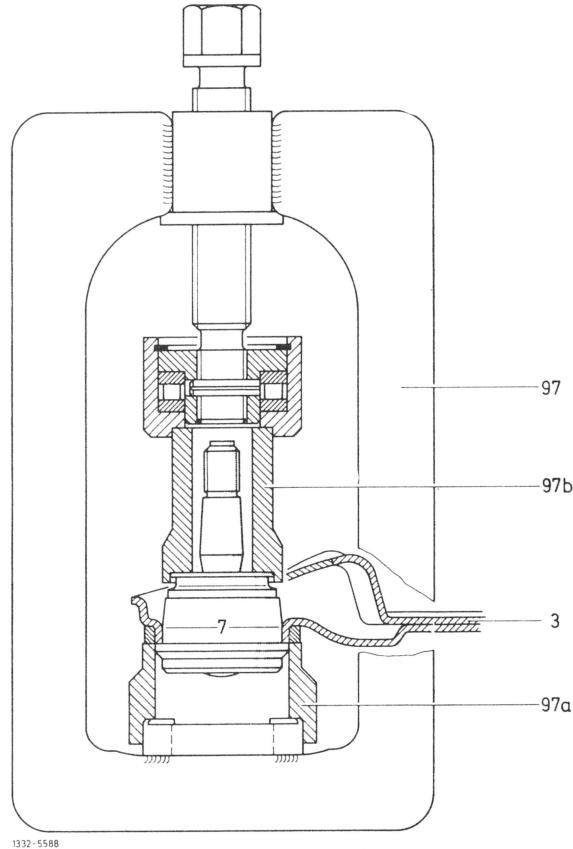

Fig. 1
- 3 Press supporting joint out of the control arm using the removal and installation tool (Fig. 1).